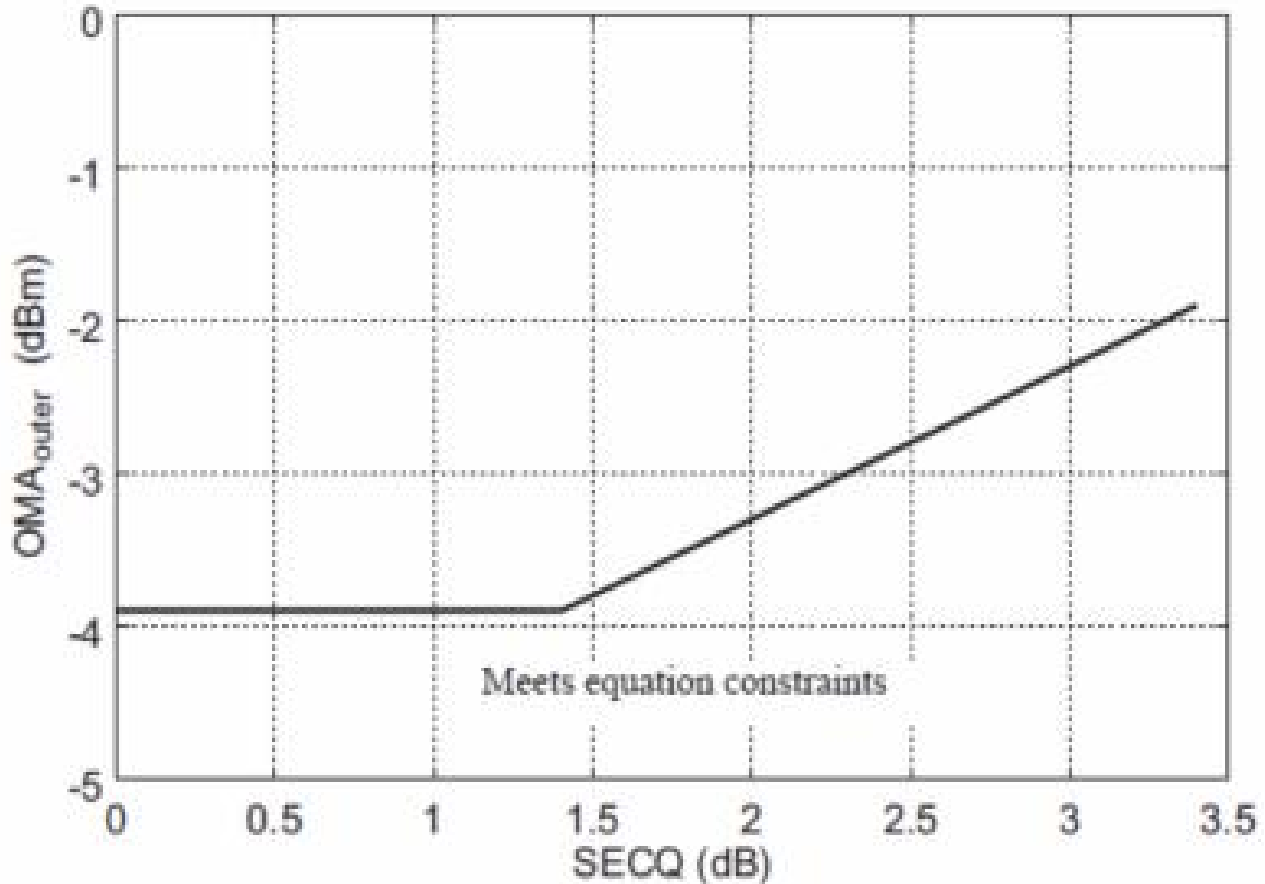

Figure 4. Illustration of Receiver Sensitivity Mask for 400G-DR4
6. Receiver sensitivity (OMAouter), each lane (max) is informative and is defined for a transmitter with a value of SECQ up to 3.4 dB. It should meet Equation (1), which is illustrated in Figure 4.